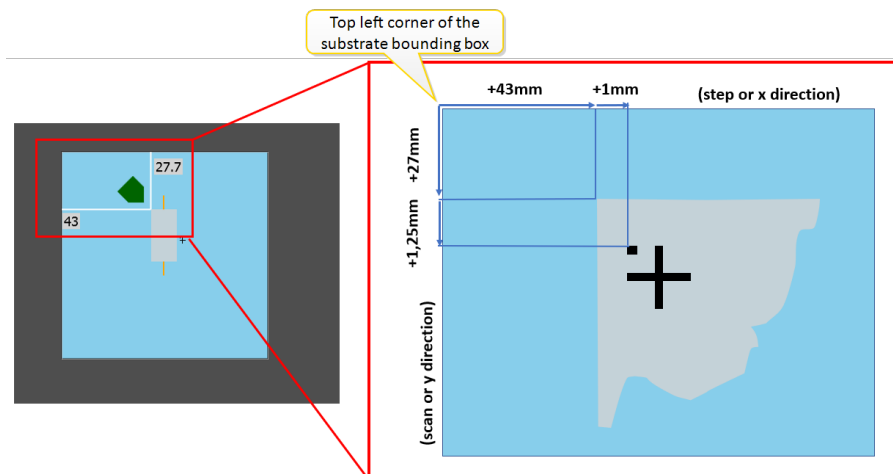

Figure 3-78 Project position (l) and Fiducial position (r)
7. Calculate the expected fiducial marker positions with reference to the top left of the substrate bounding box, see Figure 3-78.